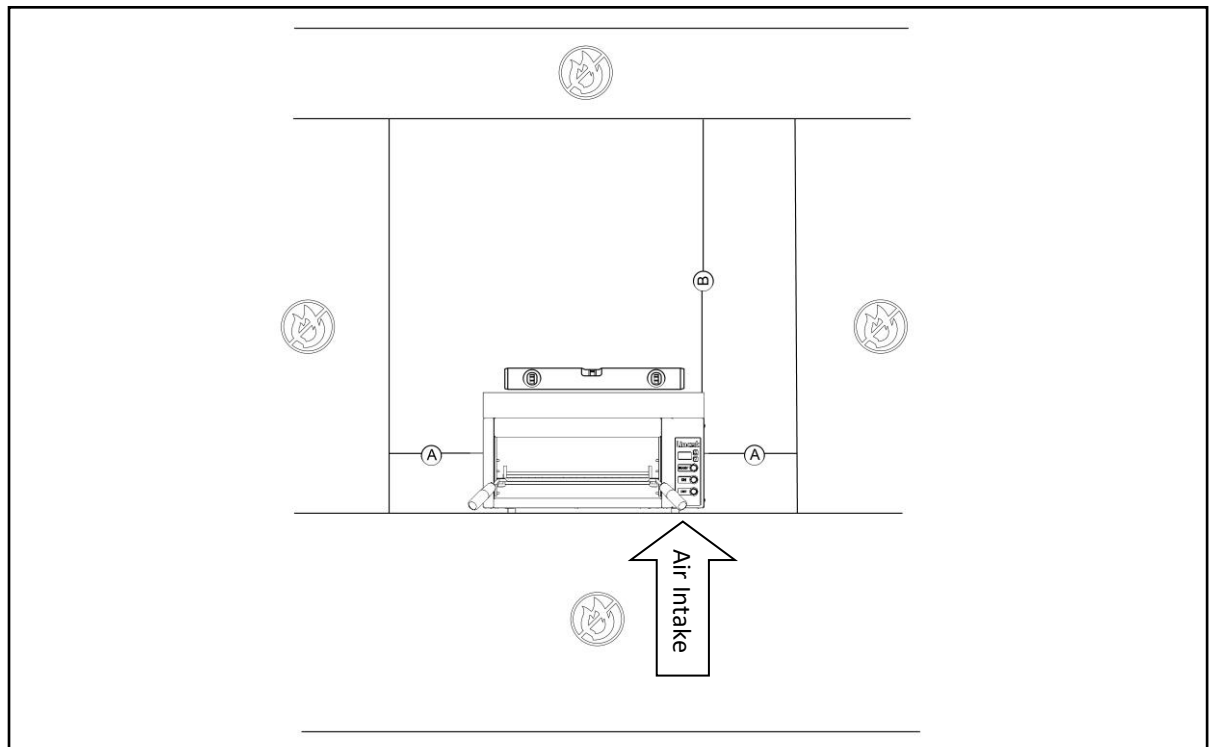

Fig 1
- During installation do not place on surfaces or near walls, partitions, or kitchen furniture and alike – unless they are made of non-combustible material or clad with non-combustible heating-insulating material and pay attention to fire prevention regulations. (see Fig 1.)
Allow a minimum clearance of (A) 300mm around the sides and (B) 500mm above the appliance for hot air to escape. (See Fig 1.)
The air intake (See Fig 1.) is located on the underside of the grill and the air outlet is at the back of the grill. It is important that the airflow is oil-free and as cool as possible.